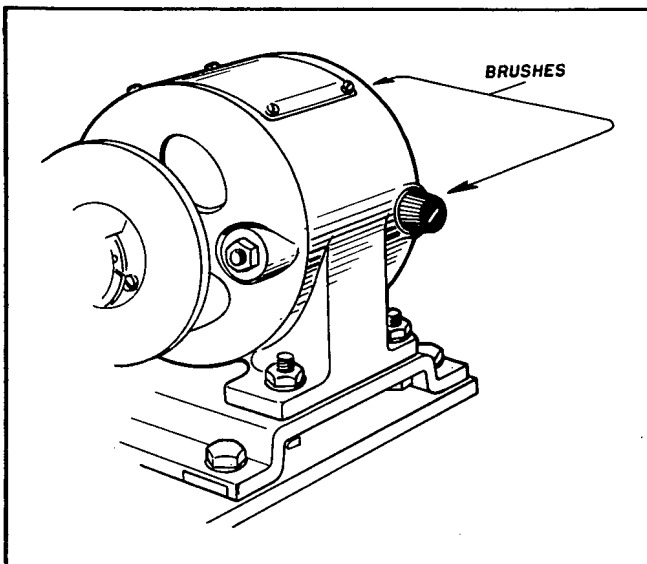

Figure 6-2. Slewing Motor Brushes in Bearing Indicator
a. The care of the brushes in the various components is usually a preventive maintenance item. The Bearing Indicator must be removed from its compartment to inspect the slewing motor brushes. The slewing motor is located near the rear of the chassis behind the indicator dials and the synchro units. The brushes are removed from the brush holders by unscrewing the knurled caps with screwdriver slots. See Fig. 6-2. The brush holders are located on the rear bell housing of the motor. The brushes should be replaced whenever inspection shows that only one-quarter of an inch of active brush material remains. The commutator should be inspected to see if it requires dressing and undercutting. If it does, the motor should be replaced and the old motor sent to a repair depot equipped to make such repairs.